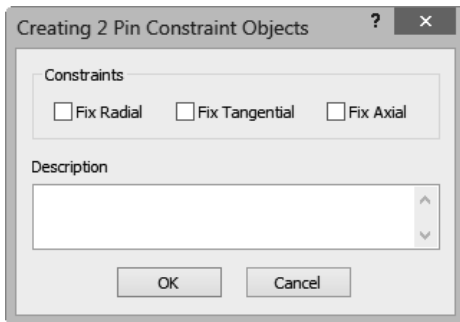

Figure 8-82 The **Creating Pin Constraint Objects** dialog box
- Choose the **Setup** tab of the **Ribbon** and then choose the **Pin Constraint** tool from the **Constraints** panel of the **Setup** tab in the **Ribbon**; the **Creating Pin Constraint Objects** dialog box is displayed, as shown in Figure 8-82.